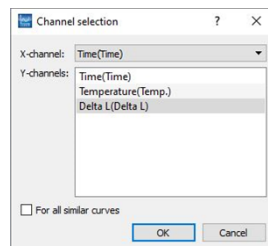

Figure 31. Select X and Y axis parameters.
- The channel selection window will appear, then select the x (Time) and y (Delta L) axis for each loaded curve. Click OK and the curves will be populated in the main screen (refer to figure 31).